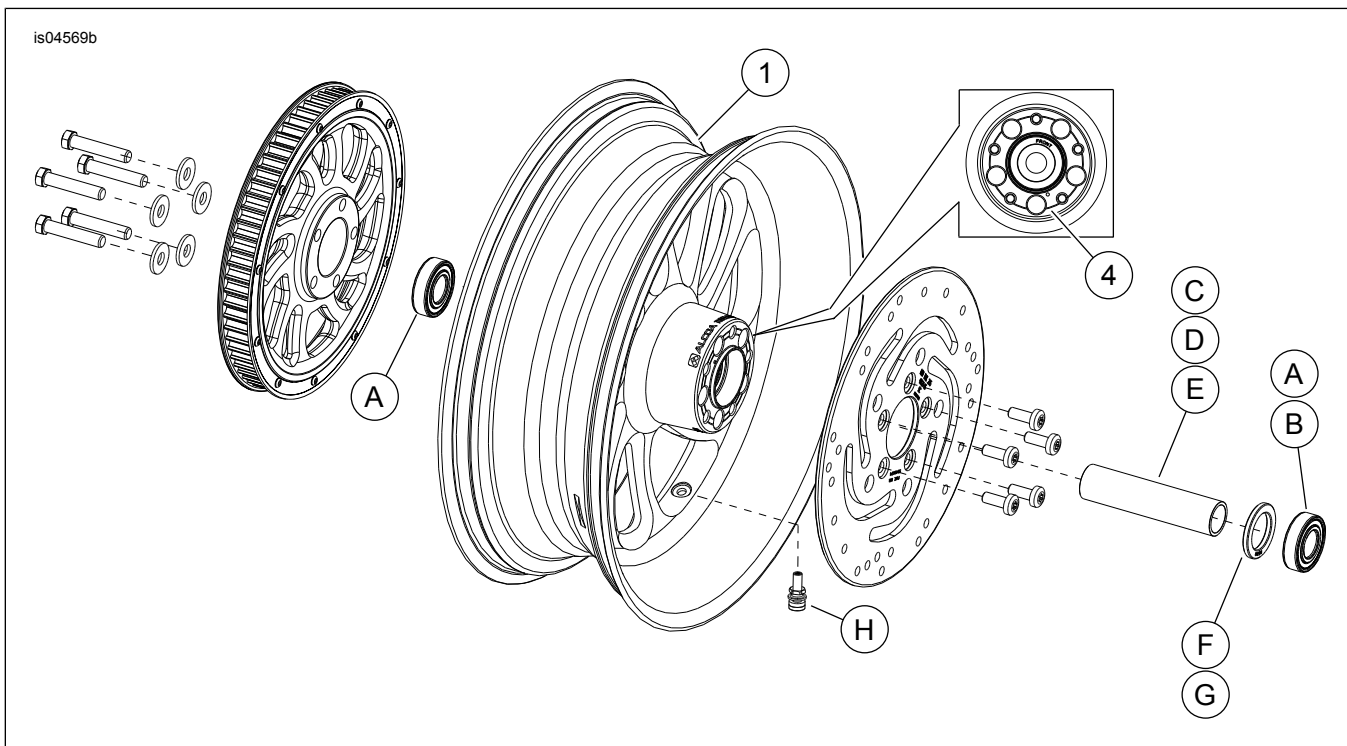

Figure 1. Service Parts: Rear Blade Wheels (17-inch wheel shown)
See Figure 1 and Table 2
- See Figure 1. Install valve stem assembly (H) on wheel. Refer to the service manual.